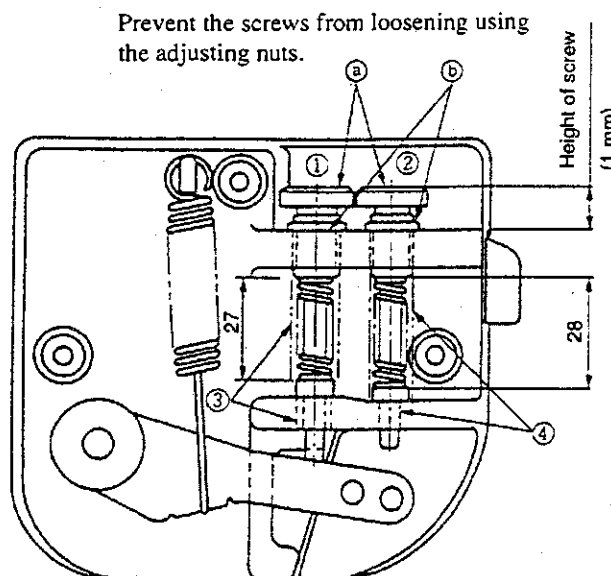

Fig. 57 Pedal sensor B asm.
- Attach the spring shaft B, rear part depressing spring B, rear part depressing pressure adjusting screw and rear part depressing pressure adjusting nut to side ②, shown in Fig. 57, same as in the case of side ①.
③ Adjusting the pressure required to depress the back part of the pedal
Adjust the height of the spring which has been changed for the knee-operated auto-lifter (PFL) type. Adjust the height of the spring on side ①, in Fig. 57, to 27 mm and that of the spring on side ②, in Fig. 57, to 28 mm using heel-depress pressure adjusting screws ①. After the spring height has been adjusted, tighten heel-depress pressure adjusting nuts ② to prevent adjusting screws ① from loosening.